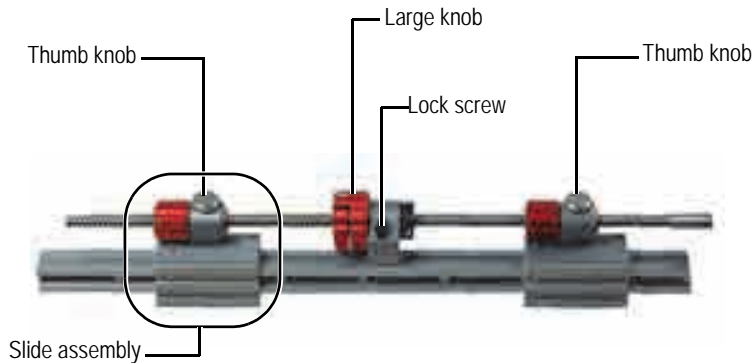

Figure 2-11 The slide bar assembly
3. Rotate the large knob to adjust the position of the pair of probes (see Figure 2-11 on page 32).